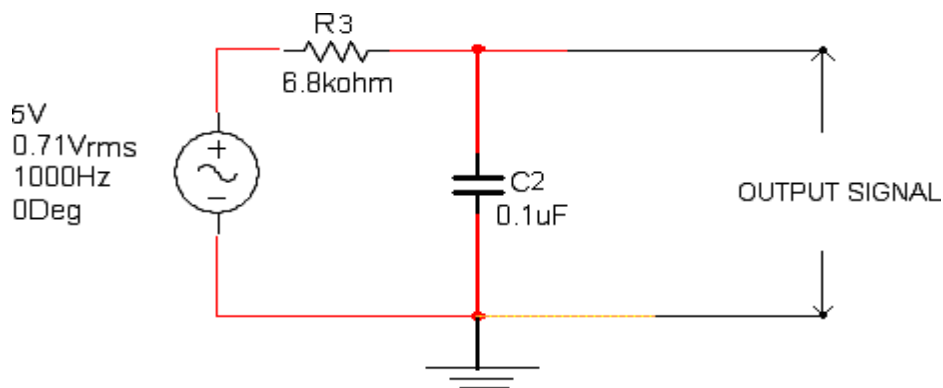

Fig.2.De-emphasiscircuit
5. Repeat above steps 2 to 4 for de-emphasis circuit (shown in Fig.2), by applying the sinusoidal signal of 5V as input signal.